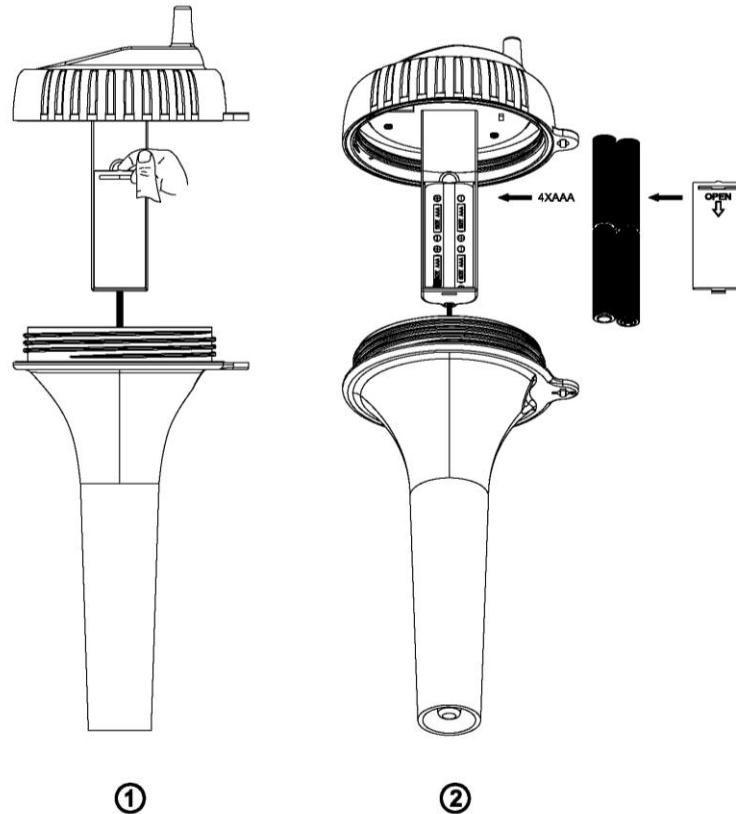

Figure 5
3. Reference Figure 5. Install 4 x AAA batteries.